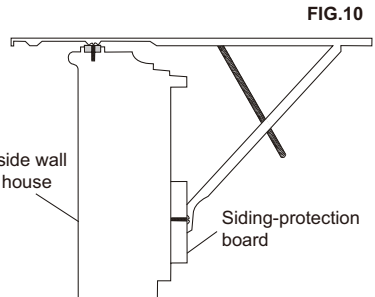

FIG.10
- 8 Securely attach a siding-protection board** to side of house (FIG.10).